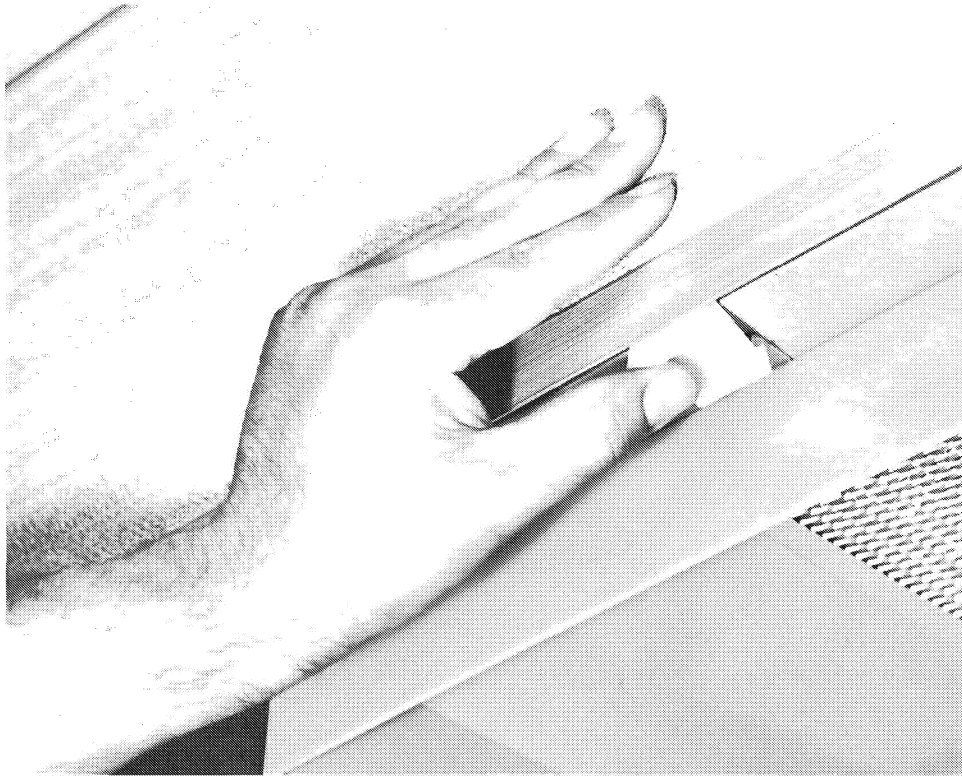

FIGURE 1-D
2. Roof lockers are equipped with hidden catches, and continuous hinges on the doors. To open the locker, squeeze the latch; to close, just shut the door firmly — the latch will engage by itself. (See Figure 1-D).